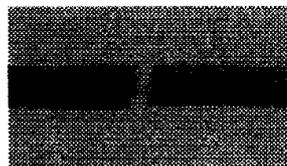

Fig. 2b
- (b) What would the broken bar look like after break? Does the broken bar look like figure 2b or figure 2c? (3%)